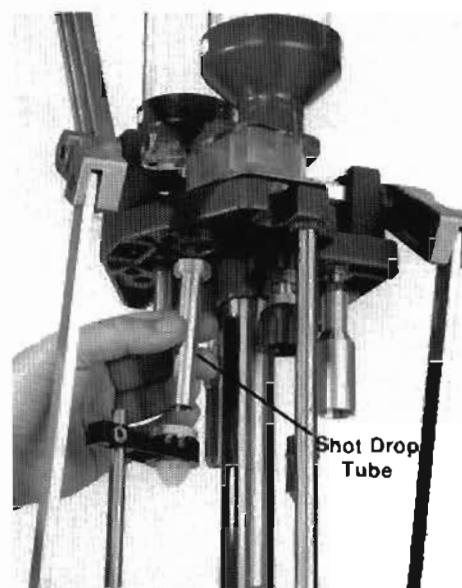

Fig. 5
**Figure 5** - Install the shot drop tube (provided). This tube doubles as the wad insertion guide, so its length is adjustable for wad seating depth. Initially, screw it in far enough so the threads are flush to the bottom of the die head casting.